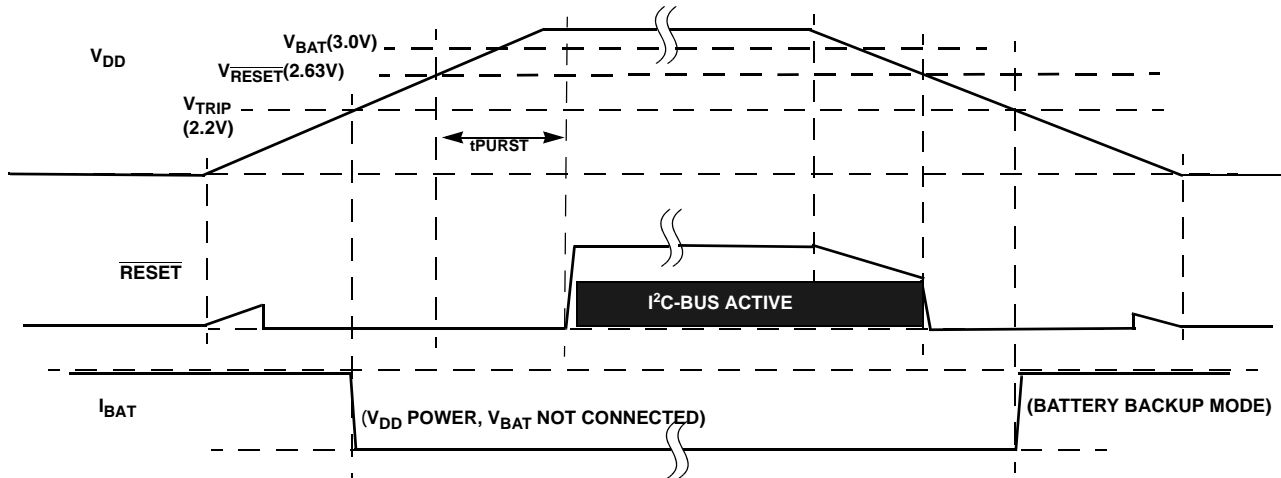

FIGURE 29. EXAMPLE RESET OPERATION IN MODE A OR C
- Mode A - In this mode, selection bits indicate a low  $V_{DD}$  switchover combined with I2C operation in battery backup mode. In actuality the  $V_{DD}$  will go below  $V_{RESET}$  before switching to battery backup, which will disable I2C ANYTIME the device goes into battery backup mode. Regardless of the battery voltage, the I2C will work down to the  $V_{RESET}$  voltage (see Figure 29).
- Mode C - In this mode, the selection bits indicate a low  $V_{DD}$  switchover combined with no communications in battery backup. Operation is actually identical to Mode A with I2C communications down to  $V_{DD} = V_{RESET}$ , then no communications (see Figure 29).